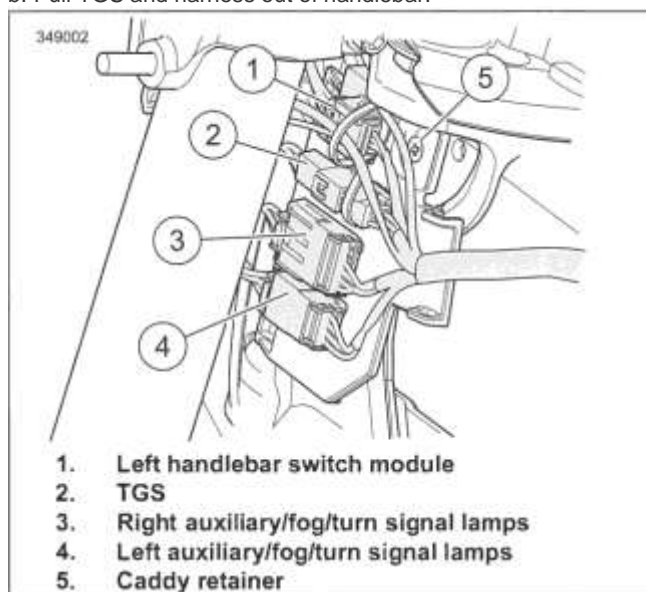
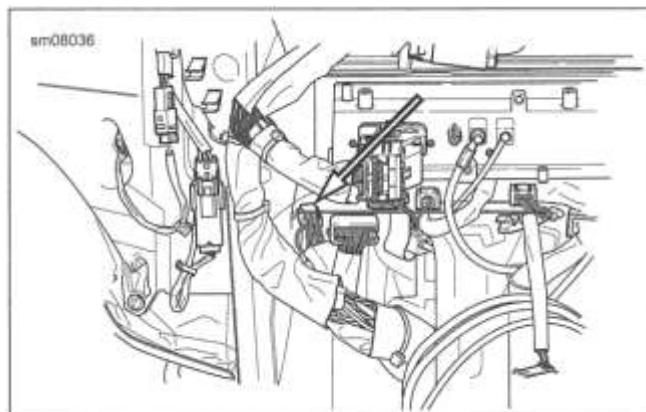
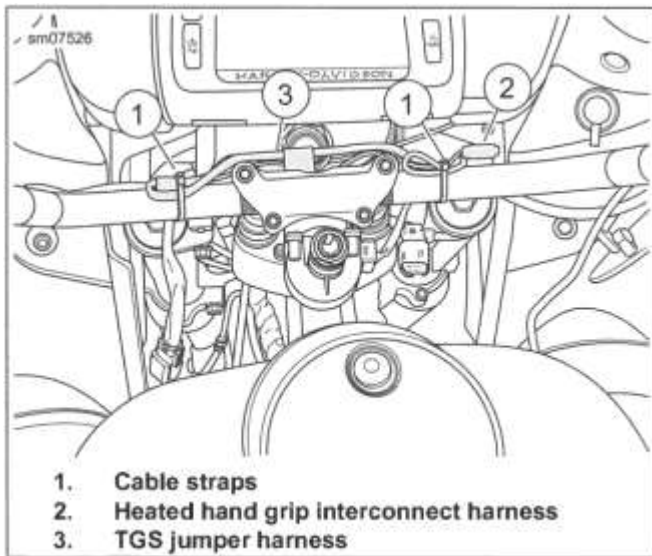

Figure 6-24. Left Side Connectors: Road King
Figure 6-25. TGS Connector: Fork-Mounted Fairing Models
Figure 6-29. Secure Harness to Handlebar
2. Road King models: See Figure 6-24.
- c. Disconnect TGS connector (2). Cut cable strap securing harness to right riser.
- b. See Figure 6-25. Disconnect TGS connector.
- d. See Figure 6-24. Connect TGS.
- e. See Figure 6-29. Loop TGS harness onto itself.
- f. Install **new** cable strap (2).
- b. See Figure 6-25. Connect TGS.
- d. See Figure 6-29. Fold TGS harness (3) across handlebar. Secure with new cable straps (1).